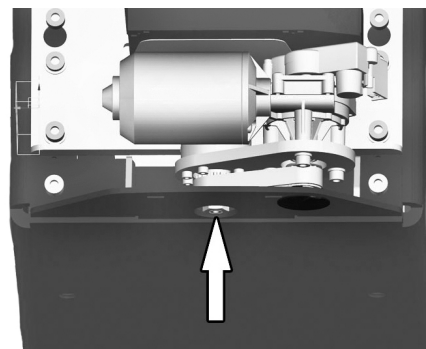

Figure 217. Remove the protective rubber cover underneath the chassis to get access to the seat elevator axle.
3. Use the supplied spanner to manually adjust the angle of the seat elevator i.e. rotate the seat elevator axle. It is accessed through the hole in the bottom of the chassis. See fig. 217.